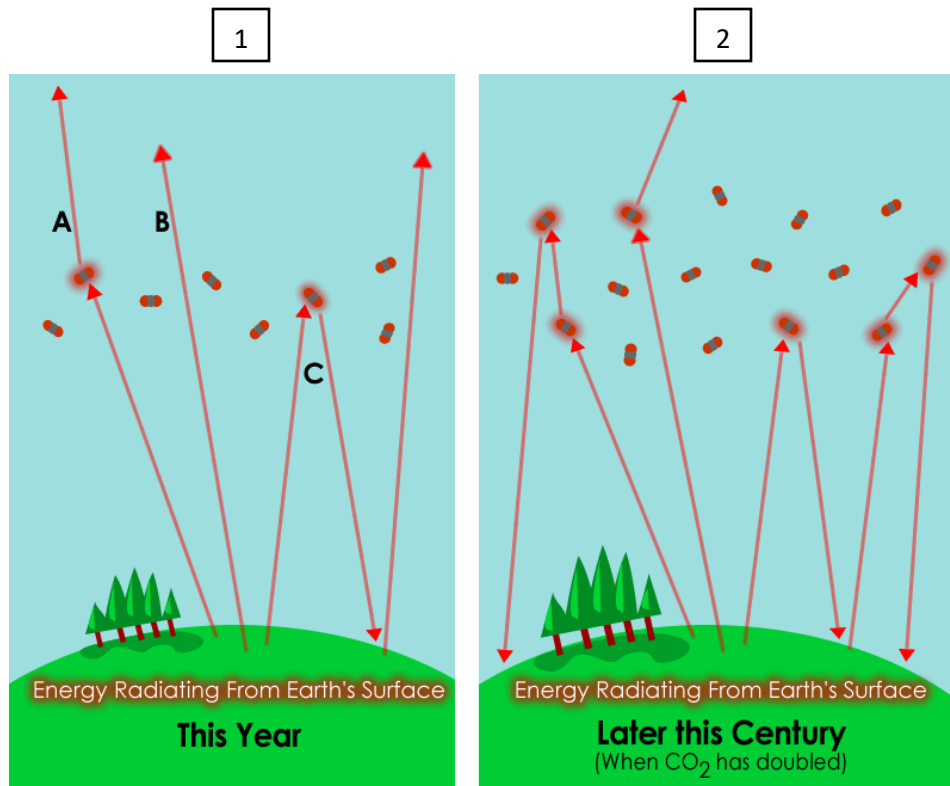

Figure 3.3: Energy radiating from Earth's surface before and after CO₂ doubles [8, modified]
Carbon dioxide produced during the combustion reactions inside the diesel engine is considered one of the greenhouse gases which in excess can cause climate change by trapping heat from sun rays within the atmosphere and block heat from escaping into outer space [7]. Other examples of greenhouse gases are methane, nitrous oxide, hydrofluorocarbons, perfluorocarbons, and sulphur hexafluoride which are all related to human activities such as burning fuel engine (diesel), deforestation, and intensive agriculture [7]. The process of trapping heat within the atmosphere is shown below in Figure 3.3.
Figure 3.3 shows the Earth's surface being heated using radiation energy caused by the sun [8]. Part 1 of Figure 3.3 shows that this year, some of the heat is absorbed by greenhouse gases such as CO₂ and then reflected back to space (A), some heat makes its way to the space (B), and the rest of the heat gets absorbed by the greenhouse gases then gets reflected back towards Earth's surface (C) [8]. Part 2 of Figure 3.3 shows that when carbon dioxide is doubled later this century, more heat is reflected into the atmosphere [8]. Excess greenhouse gases in the atmosphere can cause global warming, air pollution and respiratory infections [9]. Wildfires, extreme weather, and food supply disruption can also result from climate change that greenhouse gases cause [9].